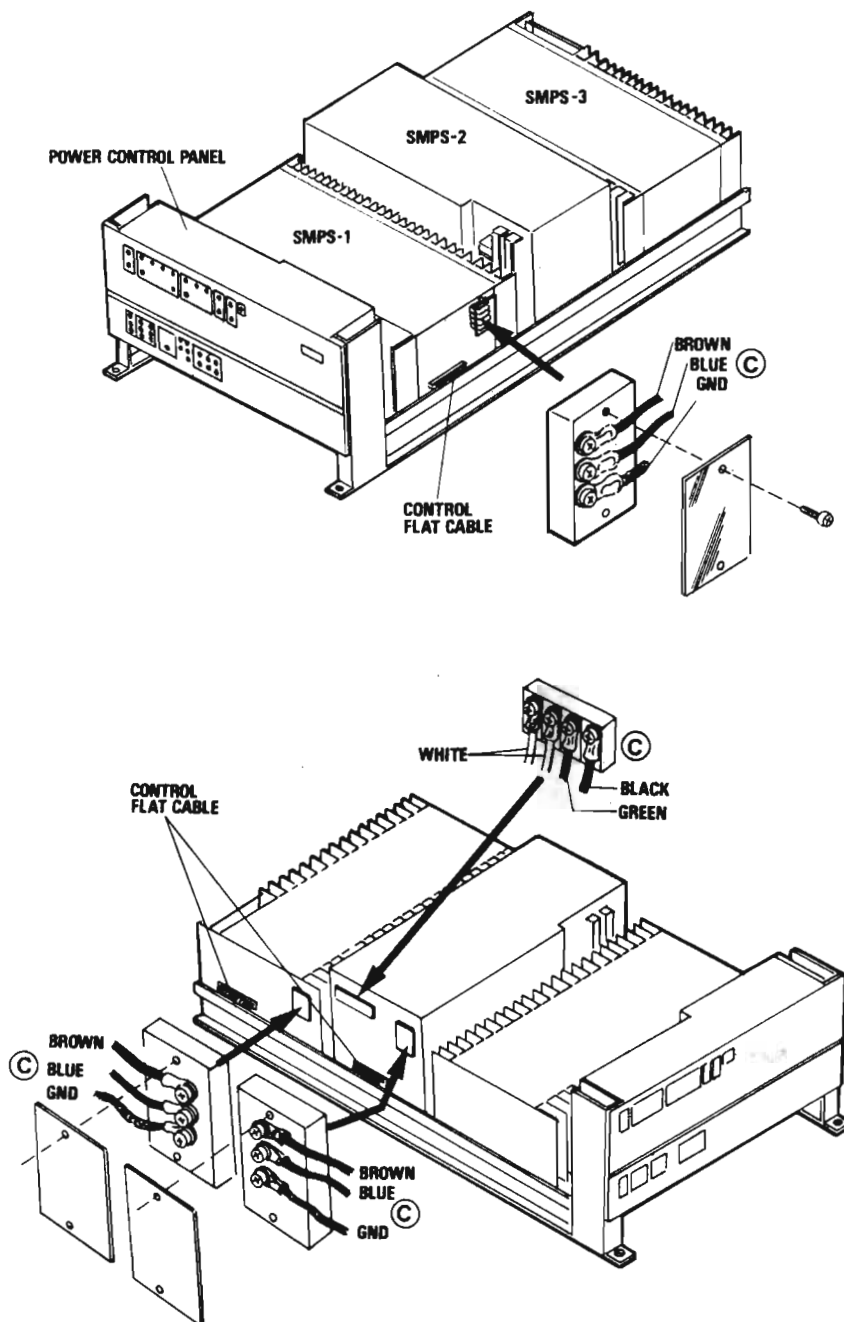

Figure 18. Input Power and Control Wires
- (10) Remove the power-supply by:
- pulling out the control flat cable (See figure 18).